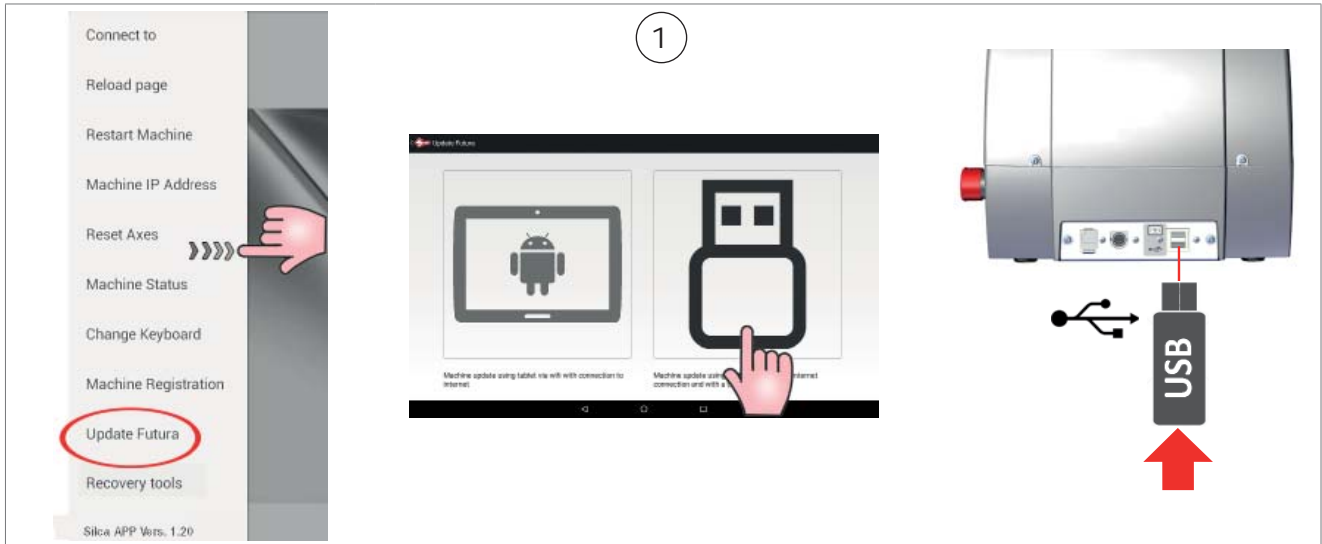

Fig. 19
- 1) Select “Machine update” from the drop-down menu and tap the USB PEN image (Fig. 19). Insert the USB PEN DRIVE into the machine and follow the instructions on the screen.